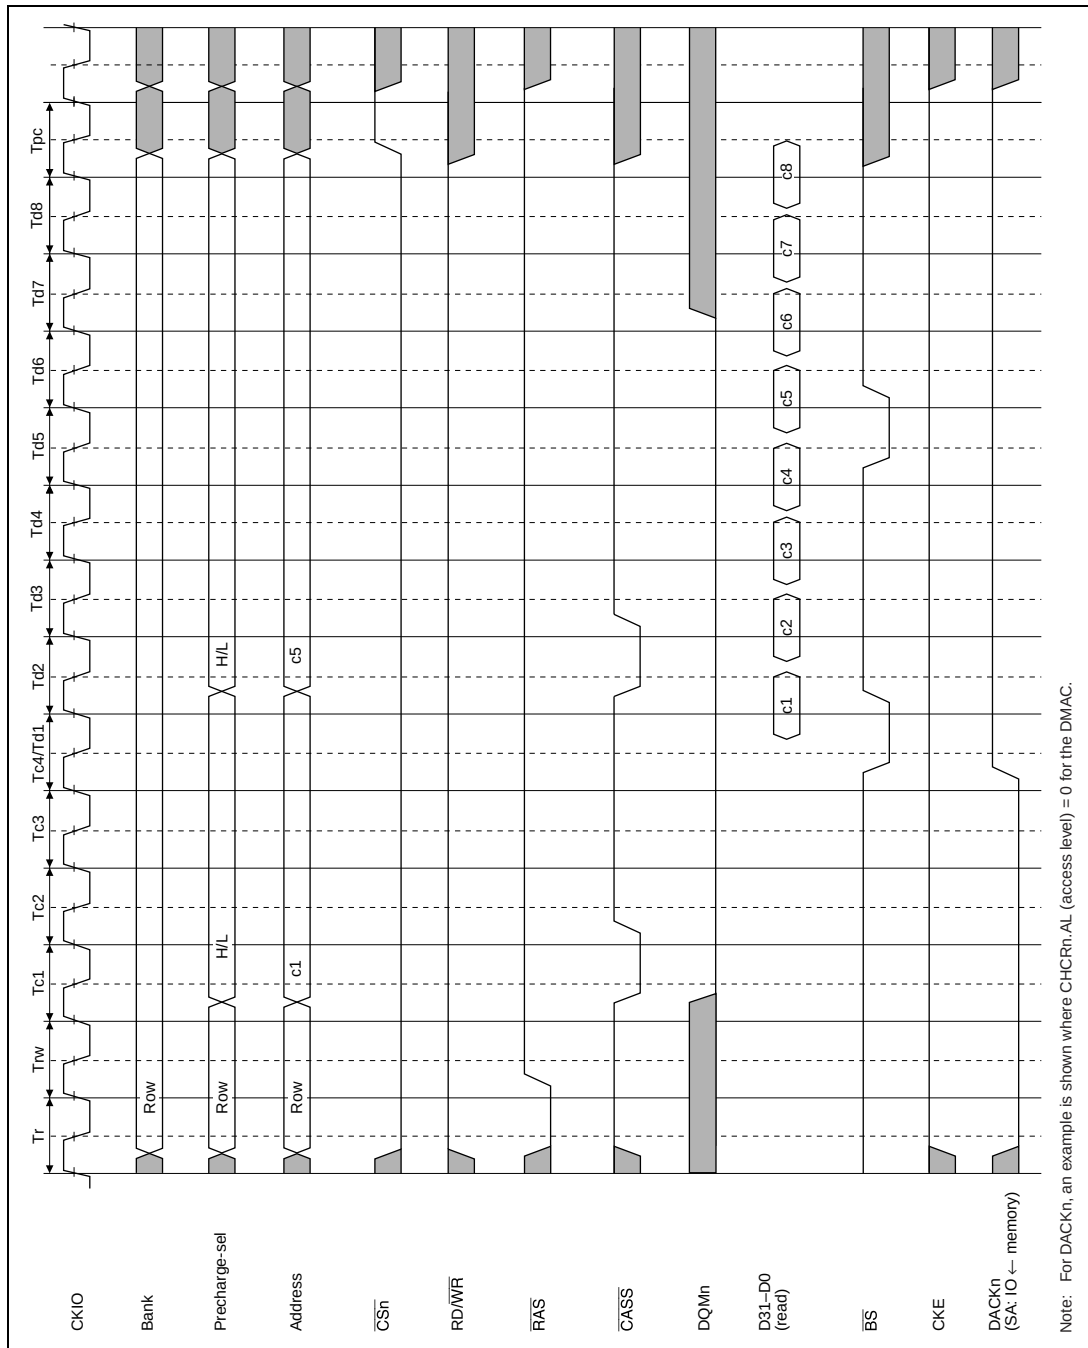

**Figure 13.24 Basic Timing for Synchronous DRAM Burst Read**
**Burst Read:** The timing chart for a burst read is shown in figure 13.24. In the following example it is assumed that two 512k × 16-bit × 2-bank synchronous DRAMs are connected, and a 32-bit data width is used. The burst length is 4. After the Tr cycle in which the ACTV command is output, a READ command is issued in the Tc1 cycle and, 4 cycles after that, a READA command is issued and read data is fetched on the rising edge of the external command clock (CKIO) from cycle Td1 to cycle Td8. The Tpc cycle is used to wait for completion of auto-precharge based on the READA command inside the synchronous DRAM; no new access command can be issued to the same bank during this cycle. In the SH7751 Series, the number of Tpc cycles is determined by the specification of bits TPC2–TPC0 in MCR, and commands are not issued for the synchronous DRAM during this interval.
The example in figure 13.24 shows the basic cycle. To connect slower synchronous DRAM, the cycle can be extended by setting WCR2 and MCR bits. The number of cycles from the ACTV command output cycle, Tr, to the READ command output cycle, Tc1, can be specified by bits RCD1 and RCD0 in MCR, with a value of 0 to 3 specifying 2 to 4 cycles, respectively. In the case of 2 or more cycles, a Trw cycle, in which an NOP command is issued for the synchronous DRAM, is inserted between the Tr cycle and the Tc cycle. The number of cycles from READ command output cycle Tc1 to the first read data latch cycle, Td1, can be specified as 1 to 5 cycles independently for areas 2 and 3 by means of bits A2W2–A2W0 and A3W2–A3W0 in WCR2. This number of cycles corresponds to the number of synchronous DRAM CAS latency cycles.